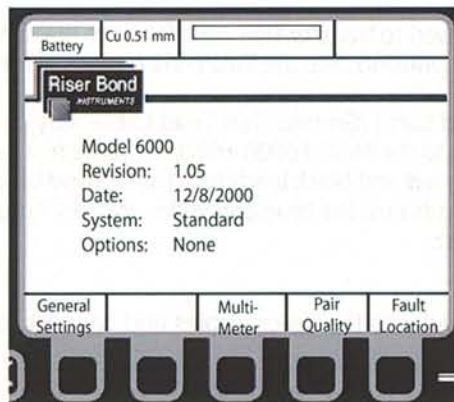

Figure 5 - Start-up screen
- 1) Press Power. A Start-up screen with a softkey menu at the bottom is displayed on your instrument (Figure 5). The Start-up screen lists the Model number, firmware version, release date, system, options, and copyright message.